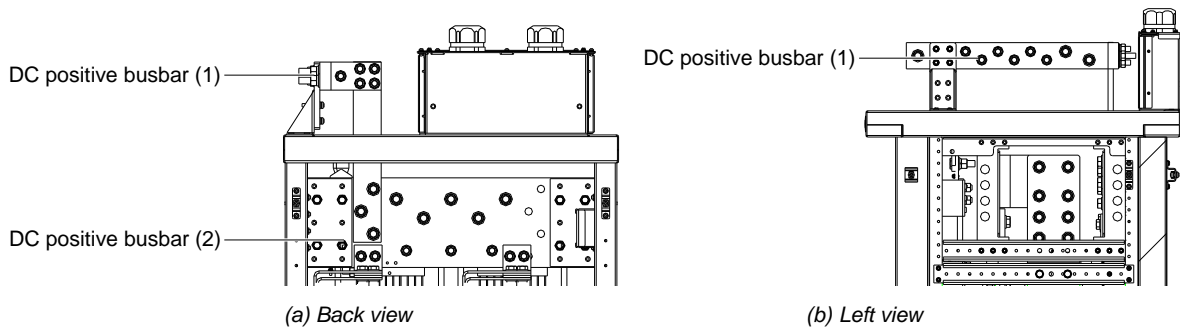

Figure 3-14 DC positive busbar of the rectifier cabinet
The DC positive busbars of the NetSure 701 AO2-T1, NetSure 701 AO3-T1 rectifier cabinet are shown in Figure 3-14. The maximum current of DC positive busbar (1) is 1000A, and the maximum current of DC positive busbar (2) is 2000A.